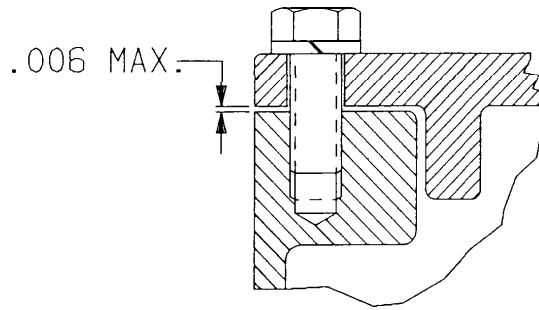

FIGURE 5
- (WEEKLY) 3. () "Alternator Covers" are properly installed with all bolts and Lockwashers in place and tight (Figure 5).